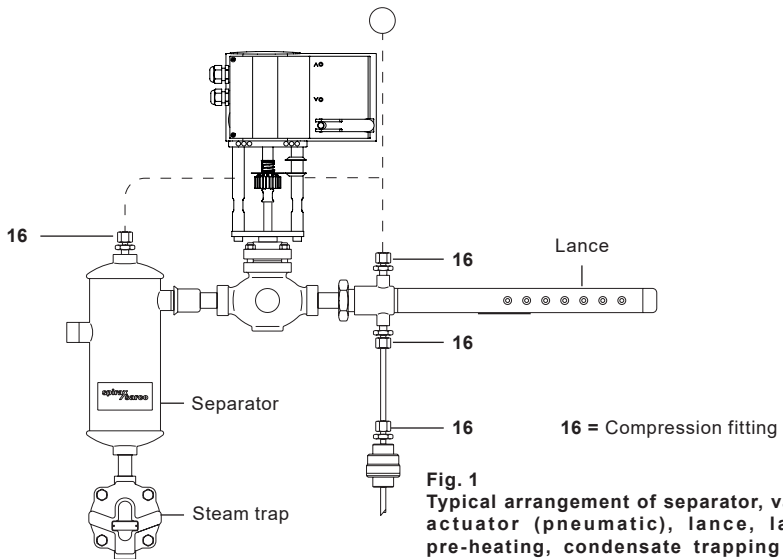

Fig. 1
The packing method used with Spirax Sarco humidifiers will vary with the Type and Model supplied. It is important to check the equipment against the order / acknowledgement. Separators carry a label giving Type (20 or 40). The lance label will show Type (20 or 40) and Model Code (1 - 12: see the Technical Information (TI) for the equivalent lance length). Associated equipment, such as steam traps, strainers, pressure reducing stations etc., which may be part of the order, will be packed separately. Where Spirax Sarco supply the valve (any make), it will be already connected to the separator outlet using the appropriate fittings. Any additional piping components will be supplied separately packaged. There are two compression fittings (16 - see Figure 1) supplied with the separator and a further two with each lance. Lances are supplied in a rigid cardboard tube.
- 3.1.3 Two ¼" BSP x 8 mm compression fittings (16 - see Figure 1) are supplied with each separator, and two with each lance. These support the tracer heating pipework between the steam supply (separator or separate source) and the lance(s), and the discharge from the tracer heating circuit to the trap.